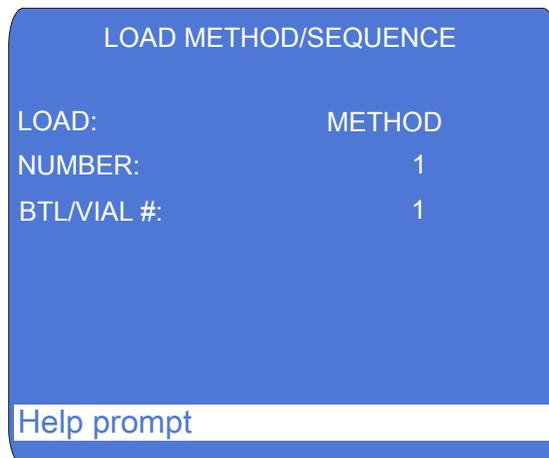

Figure 3-31. Load Method/Sequence Screen
5. Press **Menu** to display the **MAIN MENU OF SCREENS** and press **1** to display the **LOAD METHOD/SEQUENCE** screen (see Figure 3-31).